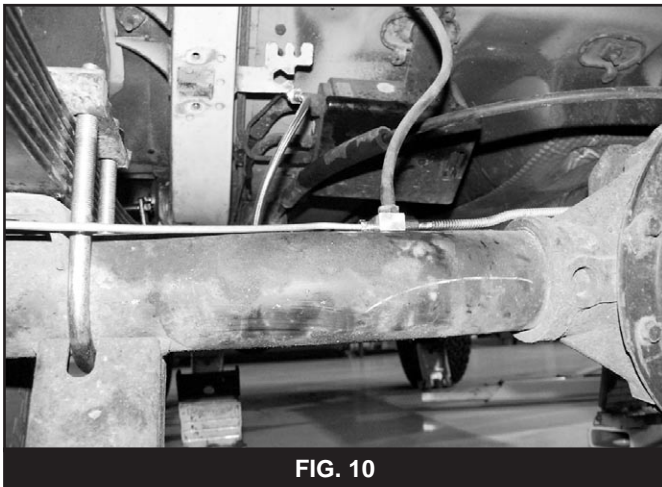

FIG. 10
65. Install new BDS rear brake line (22512) in place. Torque to 25 ft-lbs. (Fig 10)